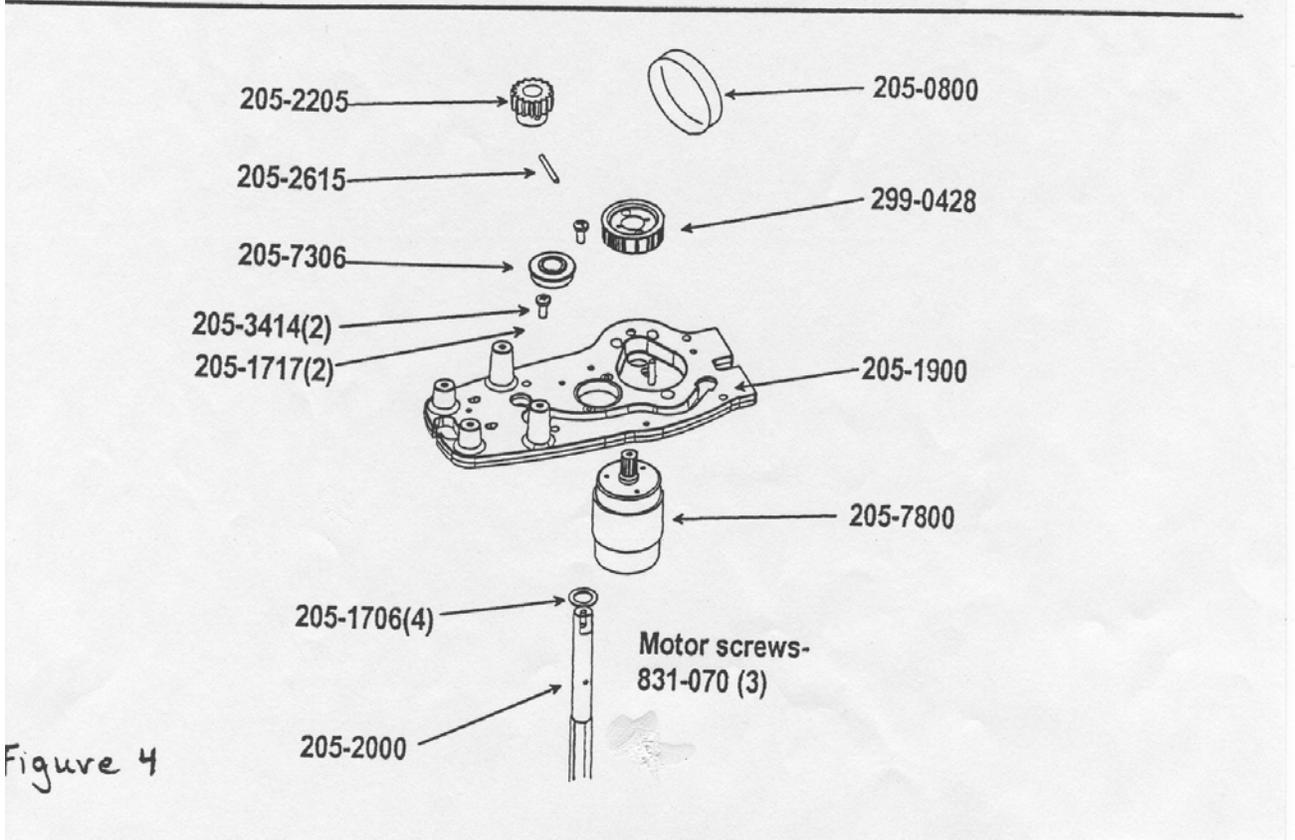

Figure 4
- A. If it was determined in **Case III Step 2A** that the drive lock pin (P/N 2052615) (see **figure 4, page 10-7**) was sheared, the broken pin can be replaced at this point. Use a 1/8" diameter punch to remove any broken pieces of the pin left in the steering gear/steering shaft. Install a new pin leaving approximately 1/4" to 5/16" protruding from the pinion gear on the same side as the "D" flat on the steering shaft. Reassemble the unit in reverse order of disassembly to complete the repair.